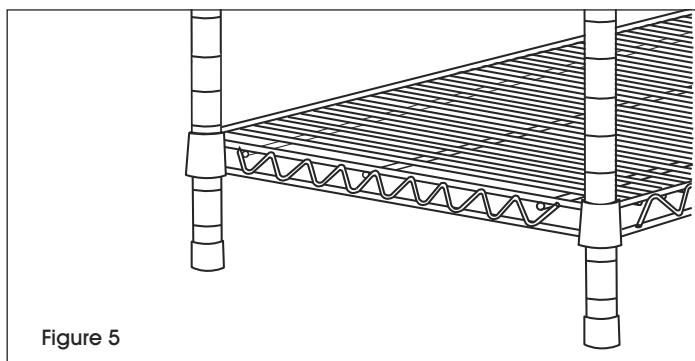

Figure 5
6. Stand unit upright. Gently tap shelf down to secure it. (See Figure 5)